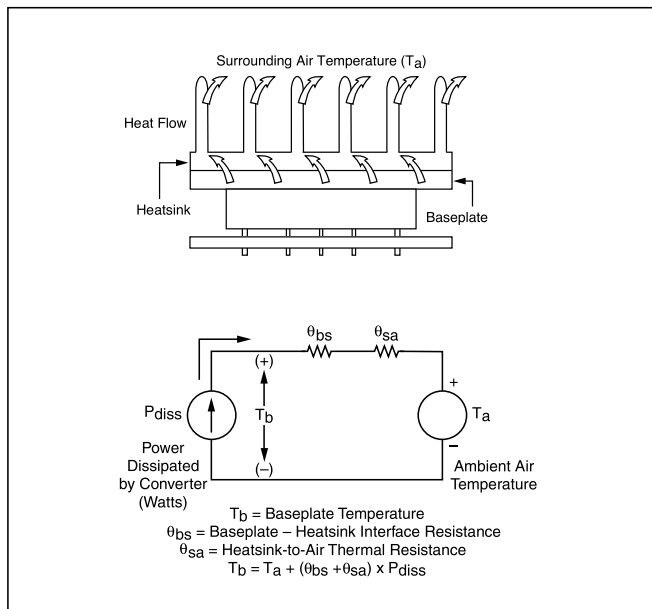

**Figure 20-4** — Heat sink thermal considerations
The convection cooling model is shown in Figure 20-4. Baseplate temperature depends on the temperature of the air, total dissipated power and the values of two thermal resistances; the thermal resistance of the surface interface between the baseplate and the heat sink, and the heat sink-to-air thermal resistance. Surface interface resistance can be minimized as discussed under Conduction. The heat sink-to-air resistance is dependent on a variety of factors including heat sink material and geometry, air temperature, air density and air flow rate. Fortunately, thermal resistance data is available for a very wide range of standard heat sinks for use in both free and forced convection applications. The following sections will provide guidelines for both free and forced convection cooling of Vicor converters and configurables.
3. Referencing Figure 20-4, we can derive the following formula for heat sink-to-air thermal resistance: